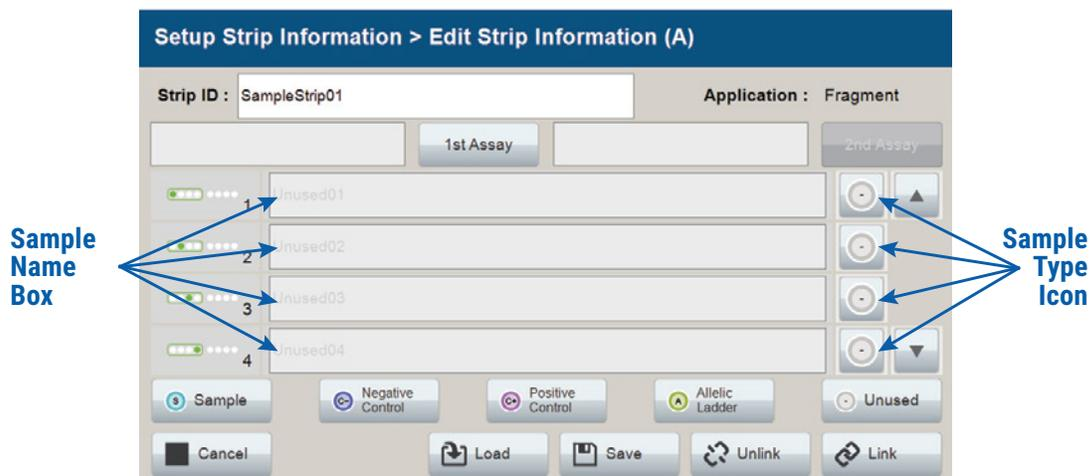
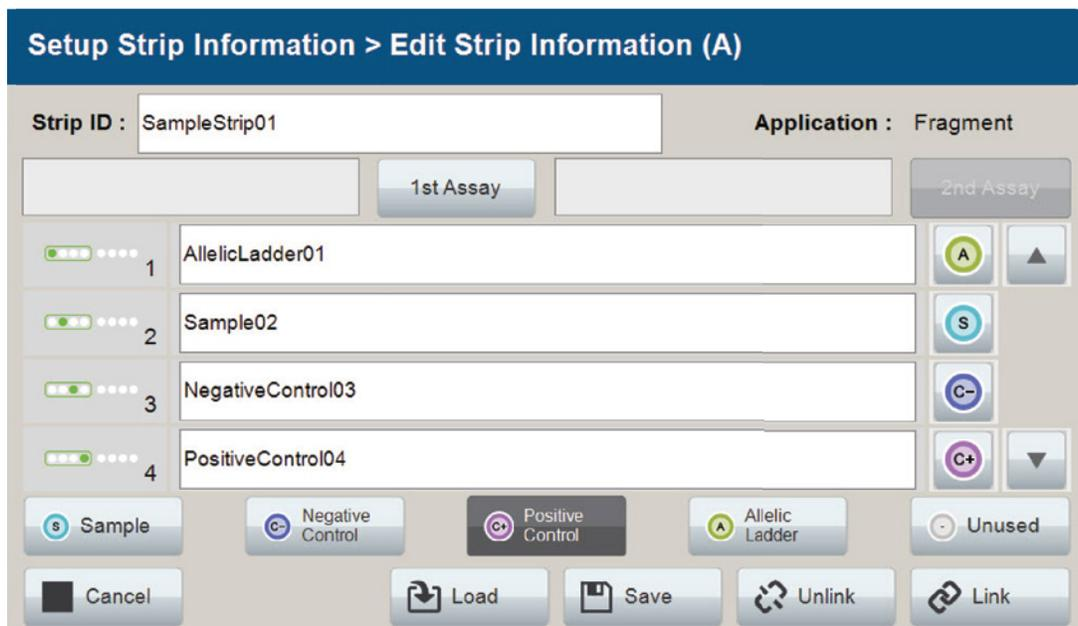
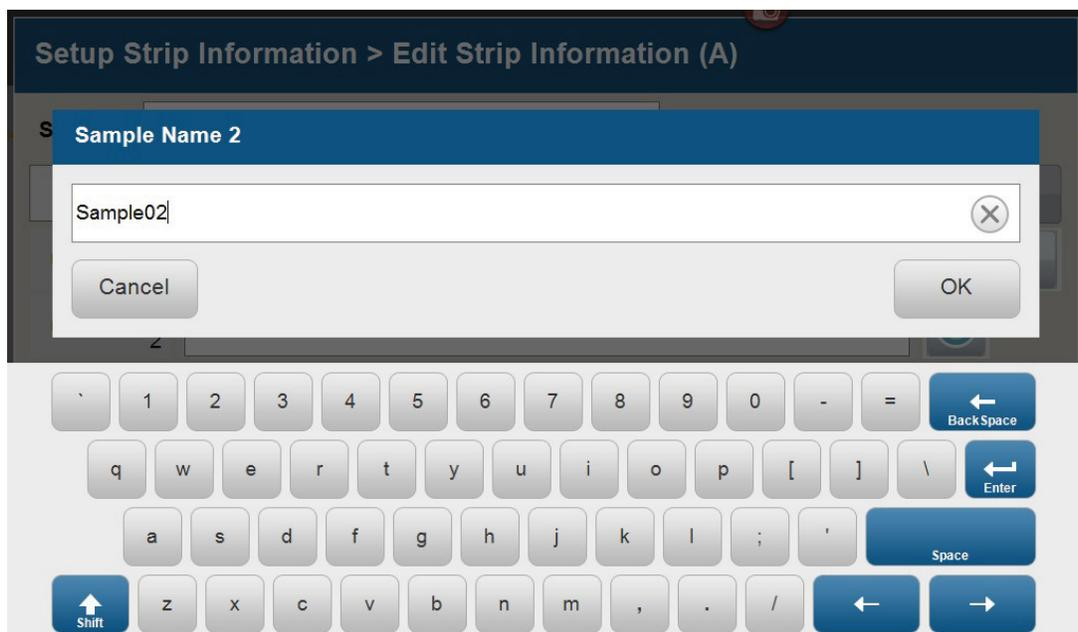
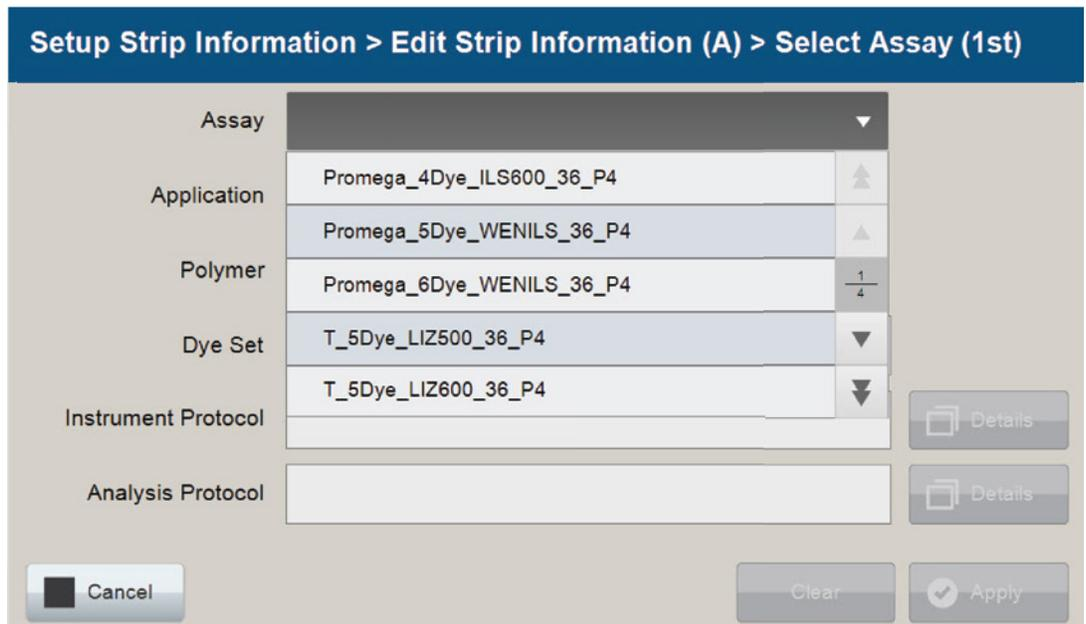

Figure 12. Sample Type and Sample Name on 'Edit Strip Information' screen.
Figure 13. Sample Name Entry on 'Edit Strip Information' screen.
Figure 14. 'Set Sample Name' window.
Figure 15. 'Select Assay' window.
- Select a sample type on the 'Edit Strip Information' screen (Figure 12). Sample types must be selected for each well position before the **Sample Name** box becomes active for entry of sample name. Sample types are as follows.
- To assign a sample type to a well, select the appropriate sample type along the bottom of the 'Edit Strip Information' screen (Figure 12), and then select the **Sample Type** icon to the right of the sample name field for the desired well. This icon will then display the sample type selected for that well (Figure 13).
- Enter a sample name for each well position by selecting the **Sample Name** box adjacent to the well number on the 'Edit Strip Information' screen (Figure 13). This opens the 'Set Sample Name' window and a keypad will become active on the touch screen (Figure 14). Alternatively, the Sample Name can be entered using a traditional keyboard if one is connected to the Spectrum Compact CE System. Enter the appropriate sample name, and then select **OK** to exit and return to the 'Edit Strip Information' screen.
- The Spectrum Compact Control Software includes pre-loaded run assays for use with chemistries available from Promega. Refer to the *Spectrum Compact CE System Operating Manual* #TMD058 for information on creating or modifying assays. To assign a run assay to an injection set, select **1st Assay** on the right side of the '1st Assay' field (Figure 13). This opens the 'Select Assay' window (Figure 15). Select 'Promega_5Dye_WENILS_36_P4' from the drop-down list (Figure 15) and then select **Apply**.